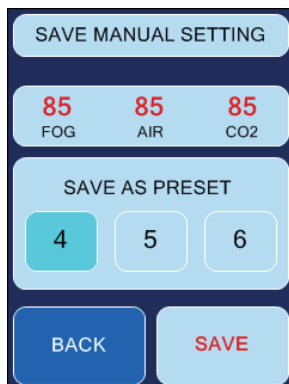

Fig. 5 Save Manual Setting
- Press **SETTINGS** and at the appearing screen (Fig. 2) **SAVE MANUAL SETTING**, to get to the SAVE MANUAL SETTING screen (Fig. 5).